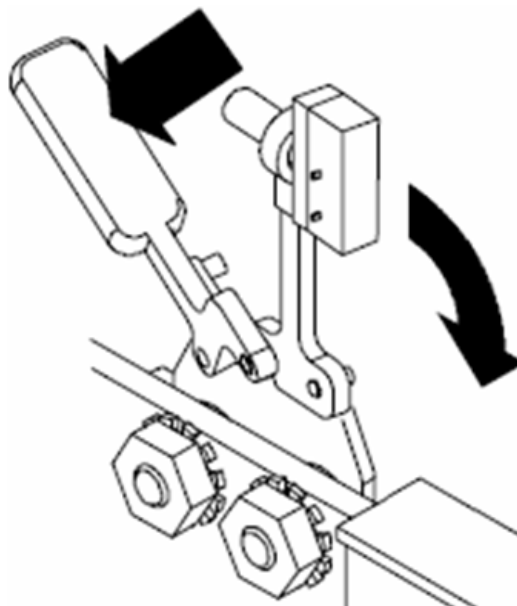

Figure 8: Securing the Clamp on the Deskew Fixture
8. Close the clamp by pushing down on the lever to secure the Tip-Clip assembly as shown in Figure 8. NOTE: To avoid unnecessary wear on the clamp elastomer, leave the clamp in the open position when not using the fixture.